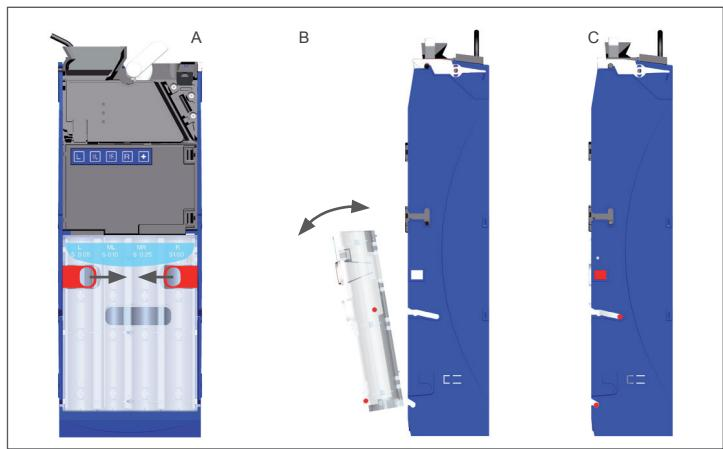

Fig. 2: Removing and reinstalling tube cassette
- Pull both latches together (Fig. 2, A).
- Swivel cassette out of the housing guides to the front (Fig. 2, B).
- Insert cassette in lower and then in upper housing guides (Fig. 2, B).
- Let the cassette's pivots as well as both latches engage in the housing guides (audible click) (Fig. 2, C).